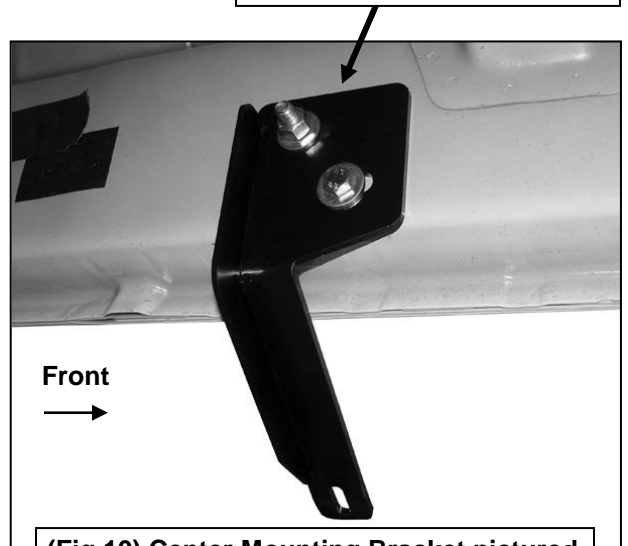

Fig 9A
7. Move to the mid point on the driver side of the vehicle and remove the tape covering the factory oval hole in the inner body panel, **(Figure 9B)**. Select and install a 12mm Bolt and Nut Plate with 12mm Plastic Retainer as described in **Step 3, (Figure 9A & 9B)**.